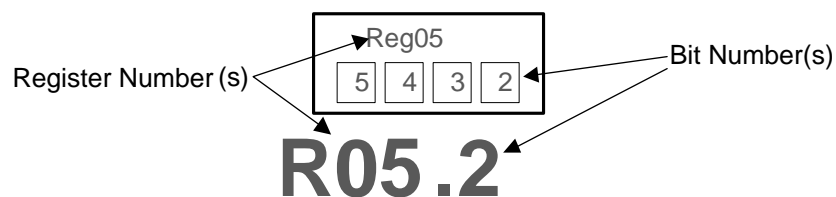

Figure 39. CDCM6208 Register Reference Format
Figure 39 shows the method this document employs to refer to an individual register bit or a grouping of register bits. If a drawing or text references an individual bit, the format is to specify the register number first and the bit number second. The CDCM6208 contains 21 registers that are 16 bits wide. The register addresses and the bit positions both begin with the number zero (0). A period separates the register address and bit address. The first bit in the register file is address 'R0.0' meaning that it is located in Register 0 and is bit position 0. The last bit in the register file is address R31.15 referring to the 16th bit of register address 31 (the 32nd register in the device